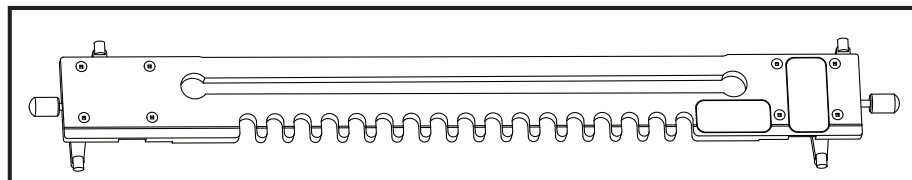

Fig. H2
- The single-pass half-blind/sliding tapered dovetail fixed finger template (Fig. H2)